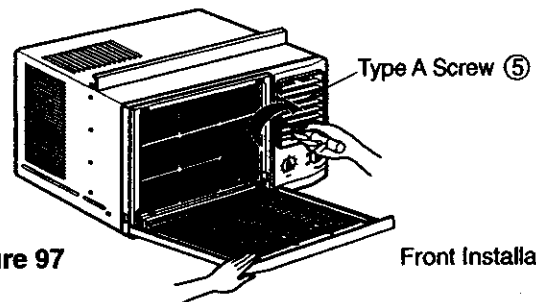

Figure 97
- Open the filter door. (See Figure 97)
- Tighten the TYPE A screw (E) through the front grille. (See Figure 97)